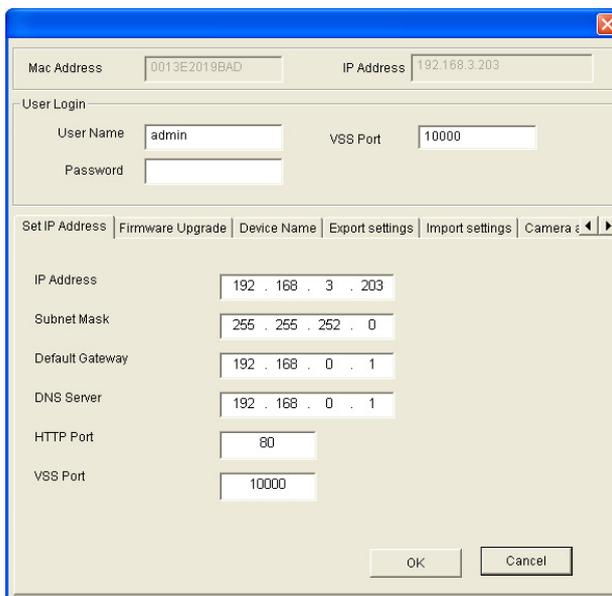

Figure 7-3
1. In Figure 7-3, click the **Import Settings** tab. This dialog box appears.